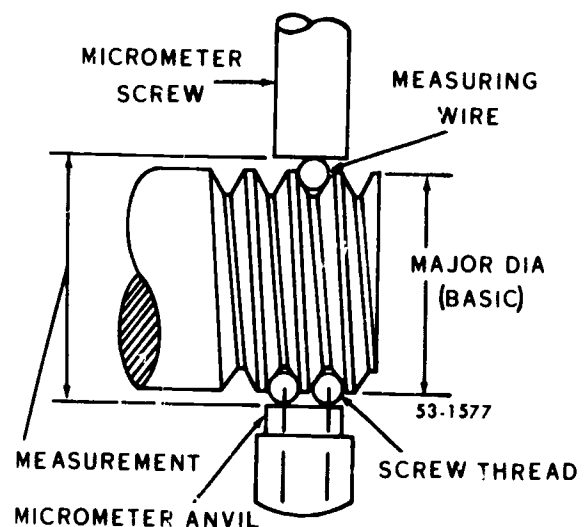

Figure 5-41. Measuring threads using three wires
**Micrometer and wires.** The pitch diameter of a thread can also be accurately measured by an ordinary micrometer and three wires, as shown in figure 5-41.